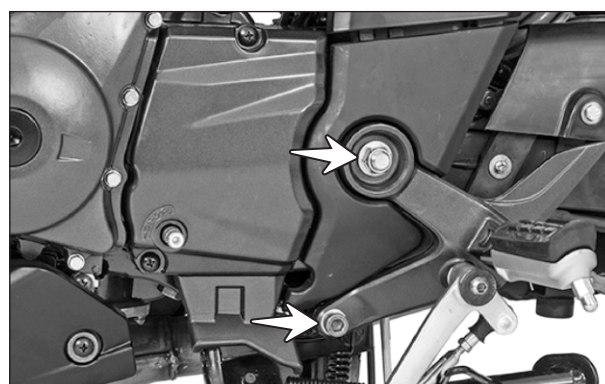

Fig. 2.124
- Remove the swing arm axle 'U' nut (M12) along with punched washer. (Fig. 2.124)
- Also, remove the hexagonal socket head cap screw (M10x25 - 1 no.) along with punched washer from the rider foot rest assembly LH and take out the foot rest assembly. (Fig. 2.124)